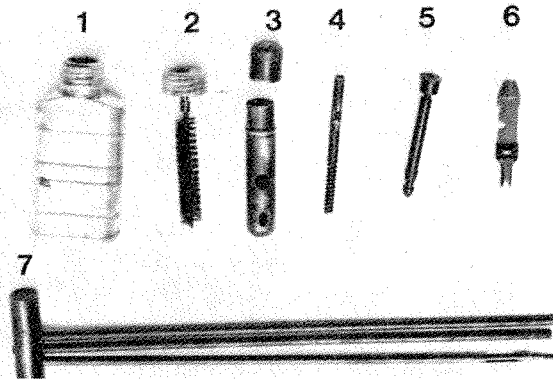

Figure 4-1. Maintenance equipment used with the PKM machine gun.
- d. The following maintenance equipment used with the weapon for cleaning (fig. 4-1) is found within the PKM machine gun. The butt of the stock is hollowed out and fitted with a spring cover to provide for storage of the cleaning equipment. Cleaning rods are normally stored with the stamped metal legs of the bipod.